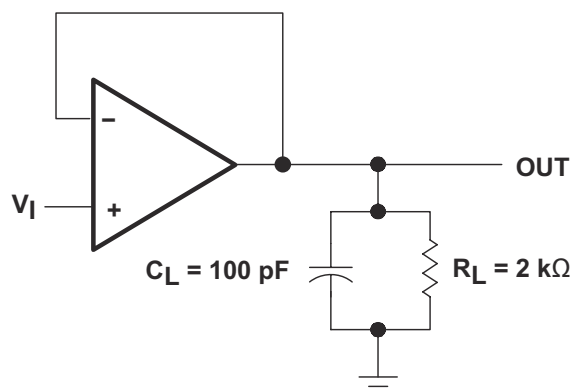

Figure 7-1. Unity-Gain Amplifier
| SR Slew rate at unity gain (1) | $V_I = 10\text{ V}$ , $R_L = 10\text{ k}\Omega$ , $C_L = 100\text{ pF}$ , see <a href="#">Figure 7-1</a> | 1.5 | 3.5 |     | $\text{V}/\mu\text{s}$       |
| $t_r$ Rise-time                           | $V_I = 20\text{ V}$ , $R_L = 10\text{ k}\Omega$ , $C_L = 100\text{ pF}$ , see <a href="#">Figure 7-1</a> |     | 0.2 |     | $\mu\text{s}$                |